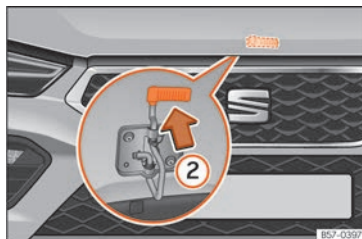

Fig. 204 Lever under the bonnet.
- To lift the bonnet, press the release catch under the bonnet upwards »»» Fig. 204 ②. The arrester hook under the bonnet is released.